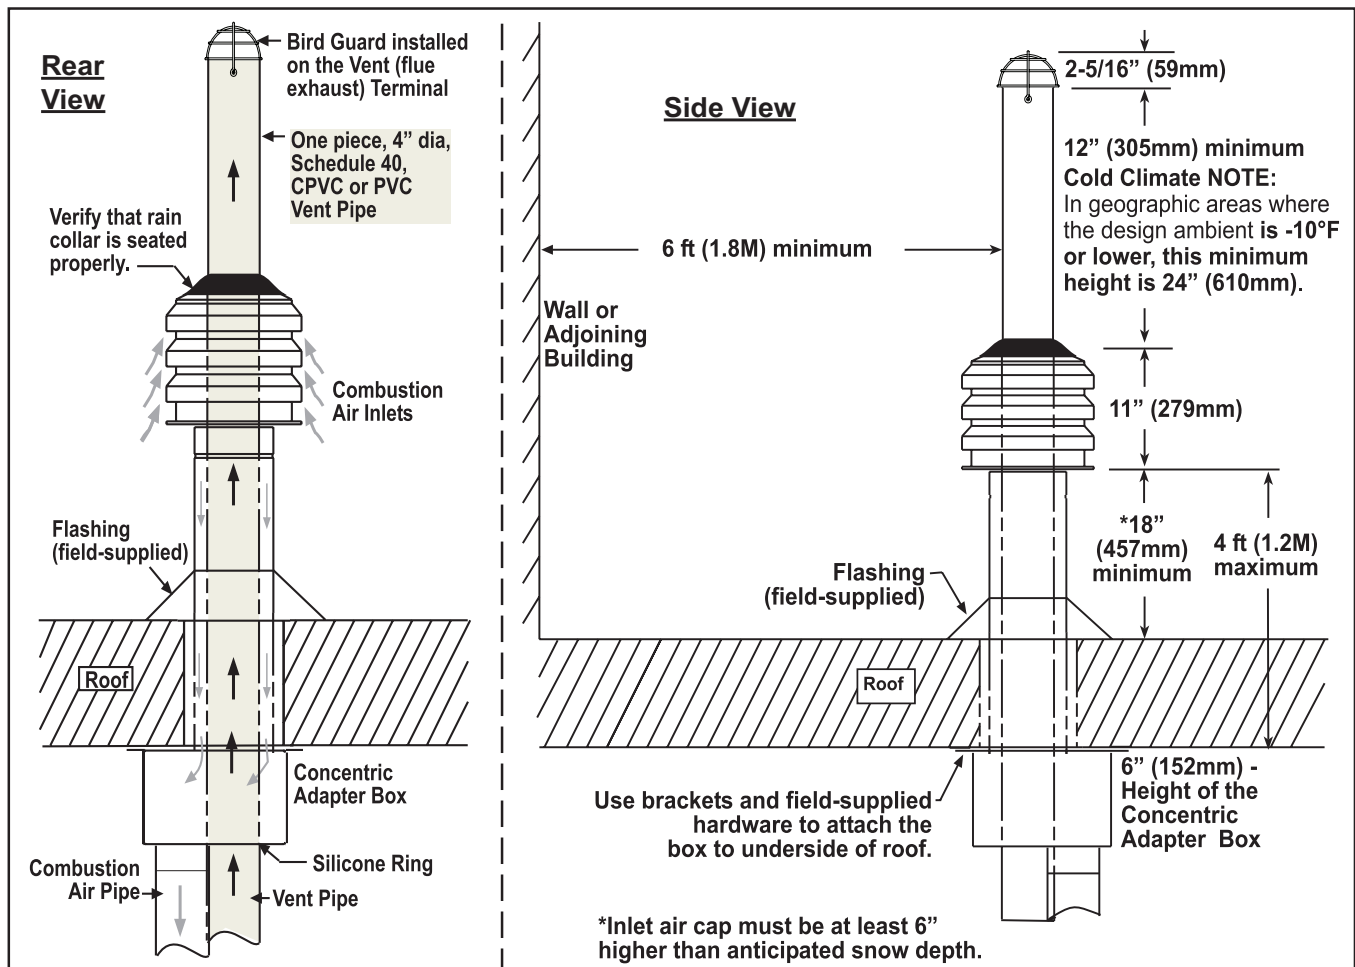

Figure 14. Option CC2 Installation
- Select location away from fresh air intakes, allowing space for concentric adapter box inside. Vent terminal must be located away from adjacent buildings as shown in Figure 14.
5. Secure concentric adapter box to underside of roof (see Figure 14):
9. Verify compliance with Figure 14 and with all specifications listed in VENTING AND COMBUSTION AIR REQUIREMENTS and Halogenated Hydrocarbons sections.